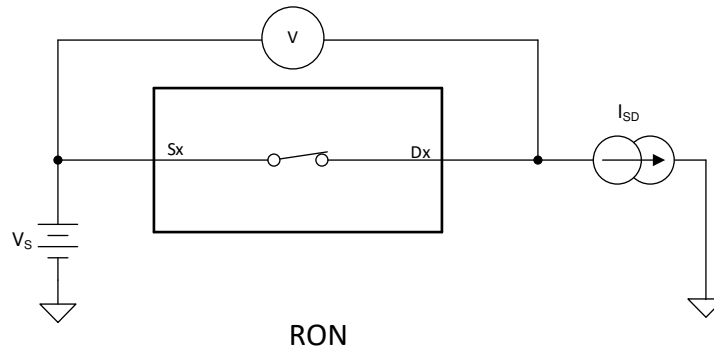

Figure 16-1. On-Resistance Measurement Setup
The on-resistance of a device is the ohmic resistance between the source (Sx) and drain (Dx) pins of the device. The on-resistance varies with input voltage and supply voltage. The symbol R_{ON} is used to denote on-resistance. Figure 16-1 shows the measurement setup used to measure R_{ON} . Voltage (V) and current (I_{SD}) are measured using this setup, and R_{ON} is computed with $R_{ON} = V / I_{SD}$: